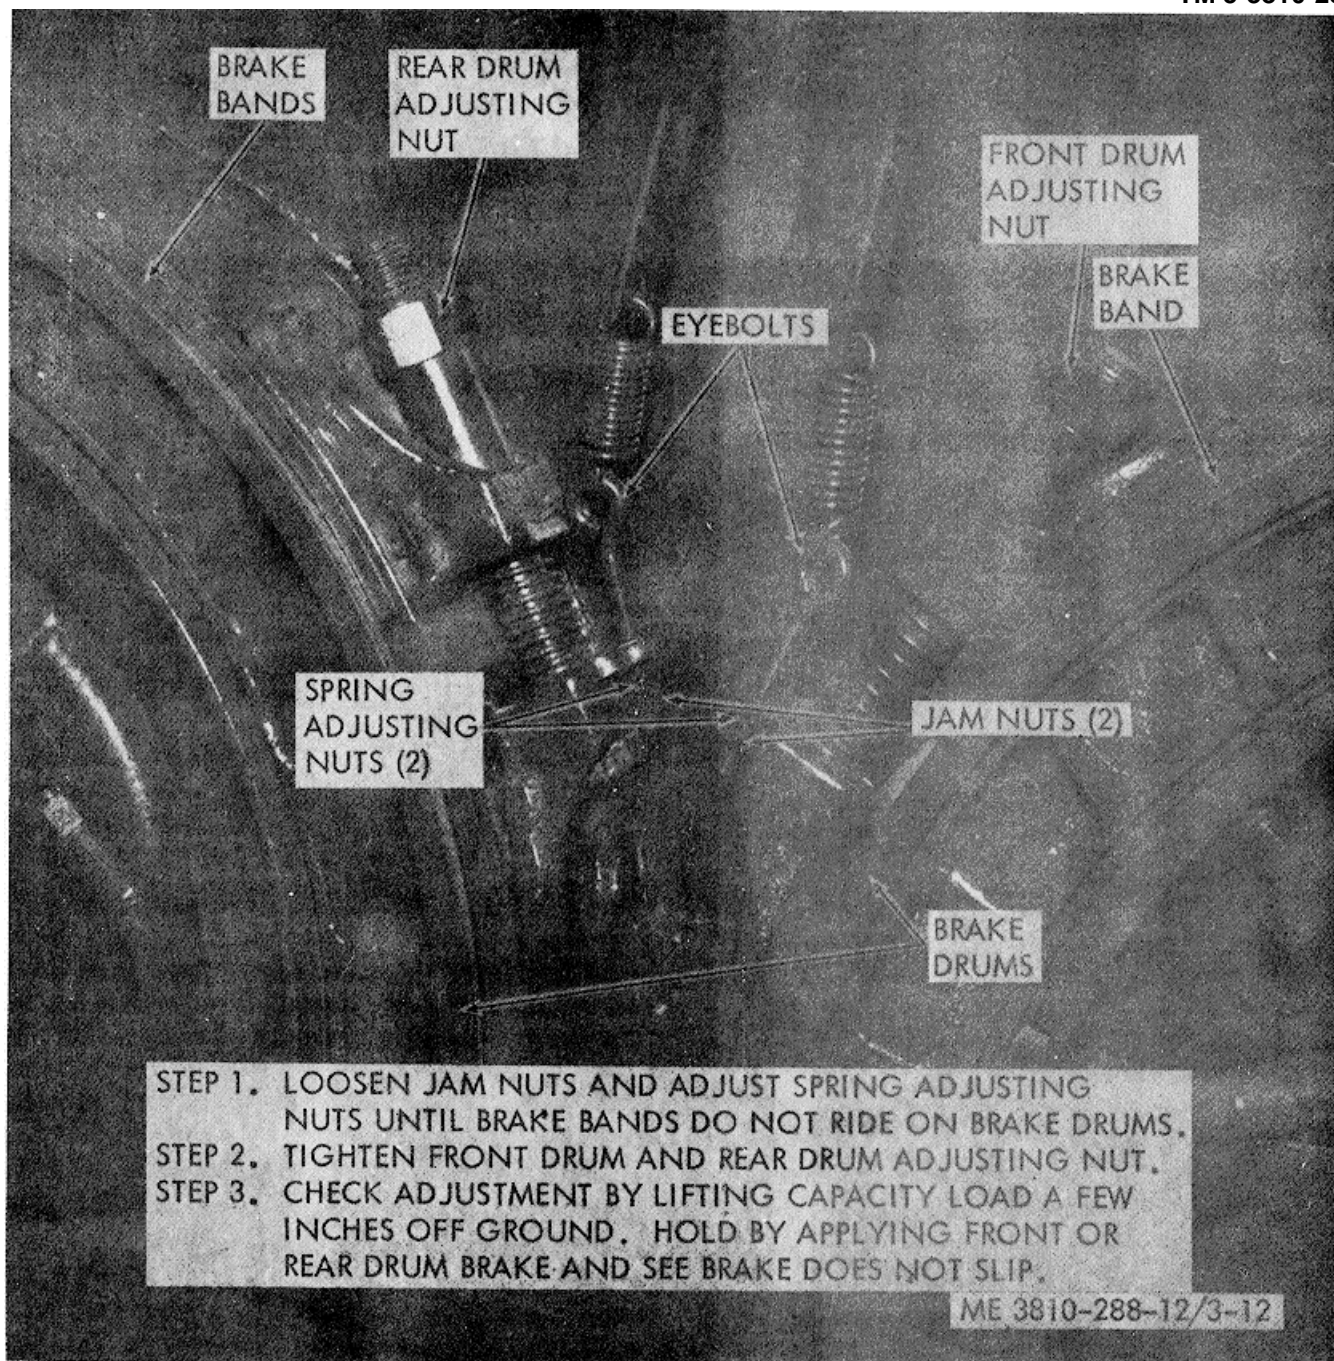

Figure 3-12. Adjusting front and rear drum brakes.
b. Adjust. The adjustment of both of these brakes is identical and is done with hydraulic pressure off. No pressure should be placed on the operating foot pedal. Refer to figure 3-12 and adjust the front or rear drum brake.